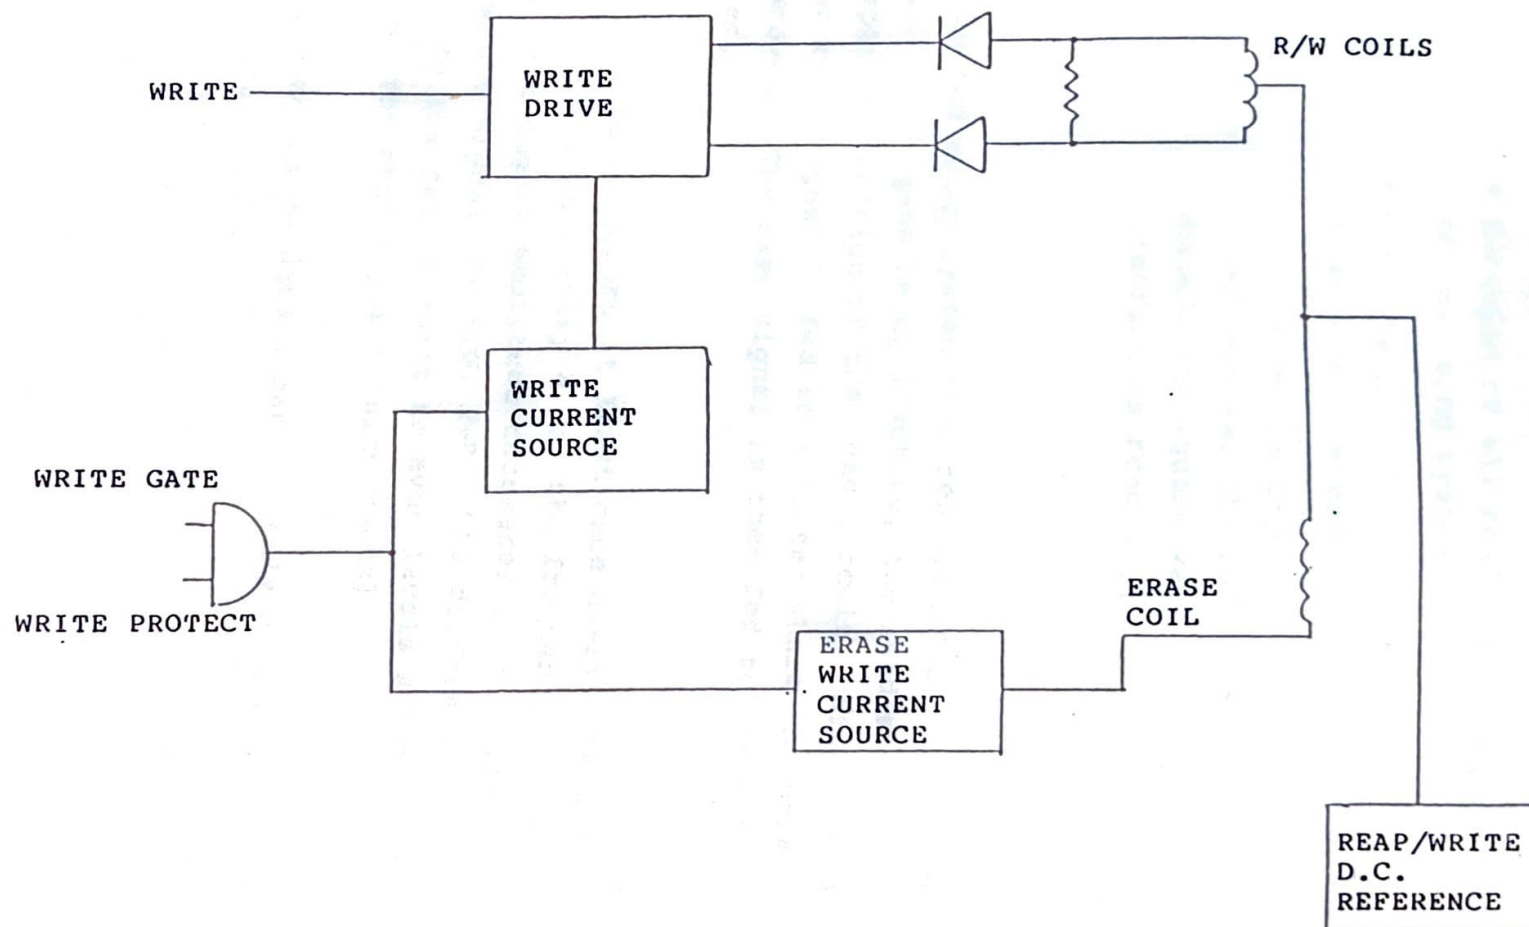

FIG.2-7 WRITE CIRCUIT FUNCTIONAL DIAGRAM.
2.5 WRITE CIRCUIT OPERATION (FIGURE 2-7)